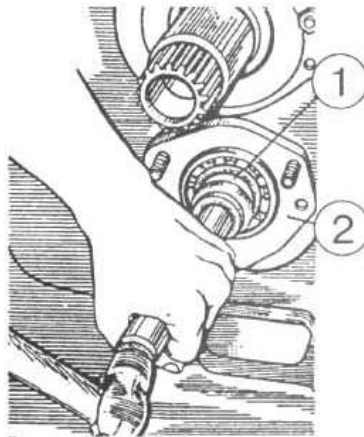

Figure 4.28
e) knock driven shaft 1 (Figure 4.28) of PTO drive outwards and extract it from clutch body together with gear of stage II;